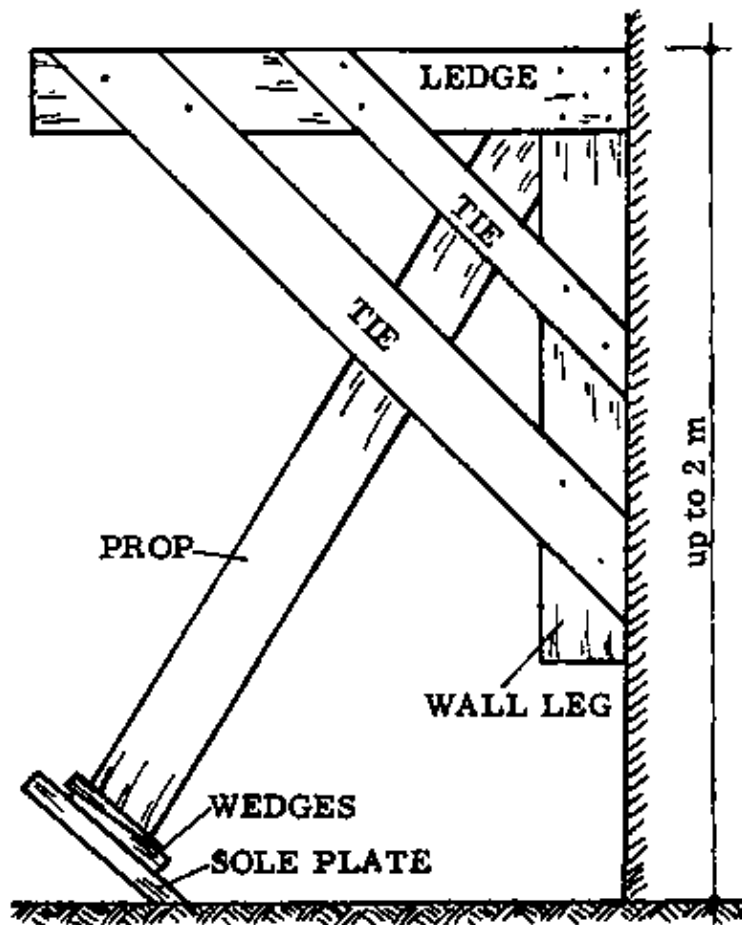

Fig. 2
– **CONSTRUCTING THE SCAFFOLD PIECES:** The jacks consist of a wall leg and a ledge which is nailed edgewise to the top of the wall leg. Both boards must be at least 5 cm thick by 10 cm wide, and about 100 cm long. The right angle is braced with two ties on each side, in a way similar to the construction of a large square (Fig. 2, also see Reference Book, page 13).